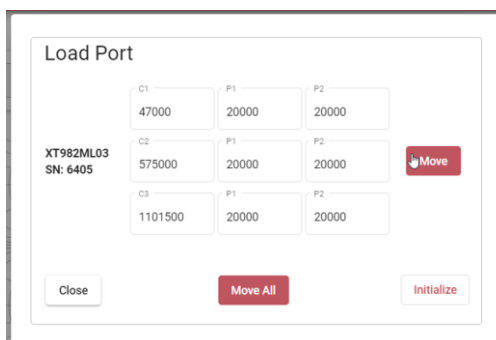

Figure 5. Carriages Locking Positions
- Enter the carriage and probe positions in the corresponding boxes as seen on Figure 5.